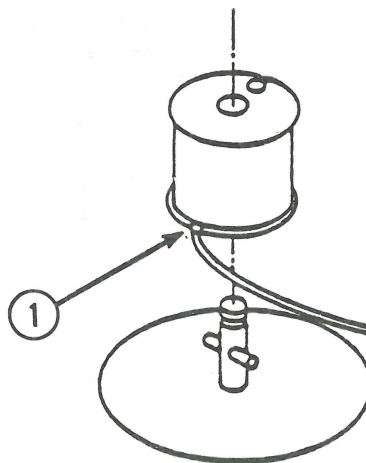

FIGURE 28
6. Insert the long end of the wire into the bottom slot (Figure 28, #1) on the motor pulley.